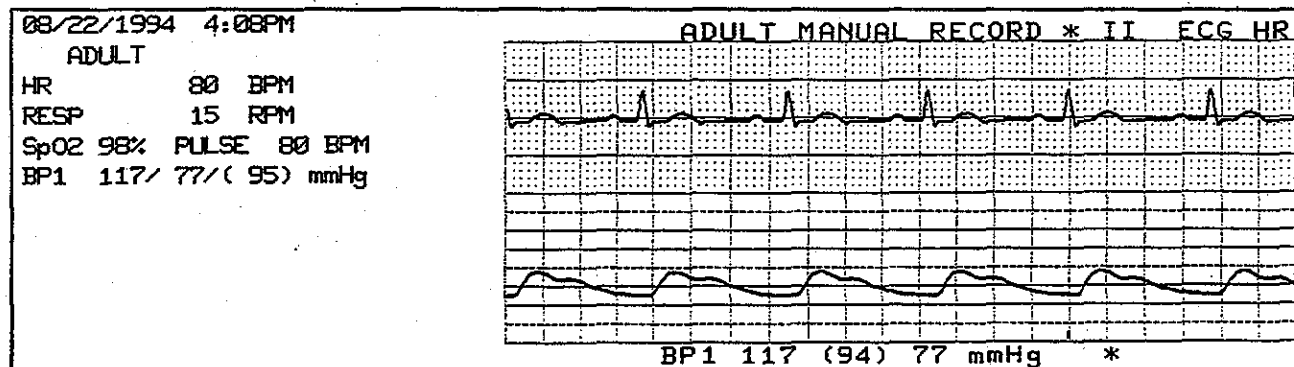

Figure 12-2: A Dual Parameter Recording
Dual parameter recordings may be accomplished by pressing the **RECORD** key followed by pressing the softkeys of each of the two desired parameters (within two seconds). The first parameter selected will be printed on the top recording trace and will determine the sweep speed of the recording strip. Ensure that the recorder prints two (2) traces. Verify that tick marks are printed every 7.5 cm at the bottom of the strip (when the sweep speed is set to 25 mm/sec). Figure 12-2 presents a dual parameter recording.